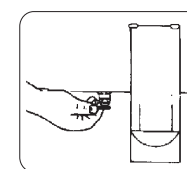

FIGURE 14
9. Open the drain petcock 8 to exhaust the condensed water inside the tank and close it right after (Figures 14 and 15).
**ATTENTION:** A compressor with good dimensions will have roughly six (6) starts per hour 70% ON and 30% OFF/unload.
- A. Drain the condensed water from the tank, through petcock 8 (Figures 14 and 15).